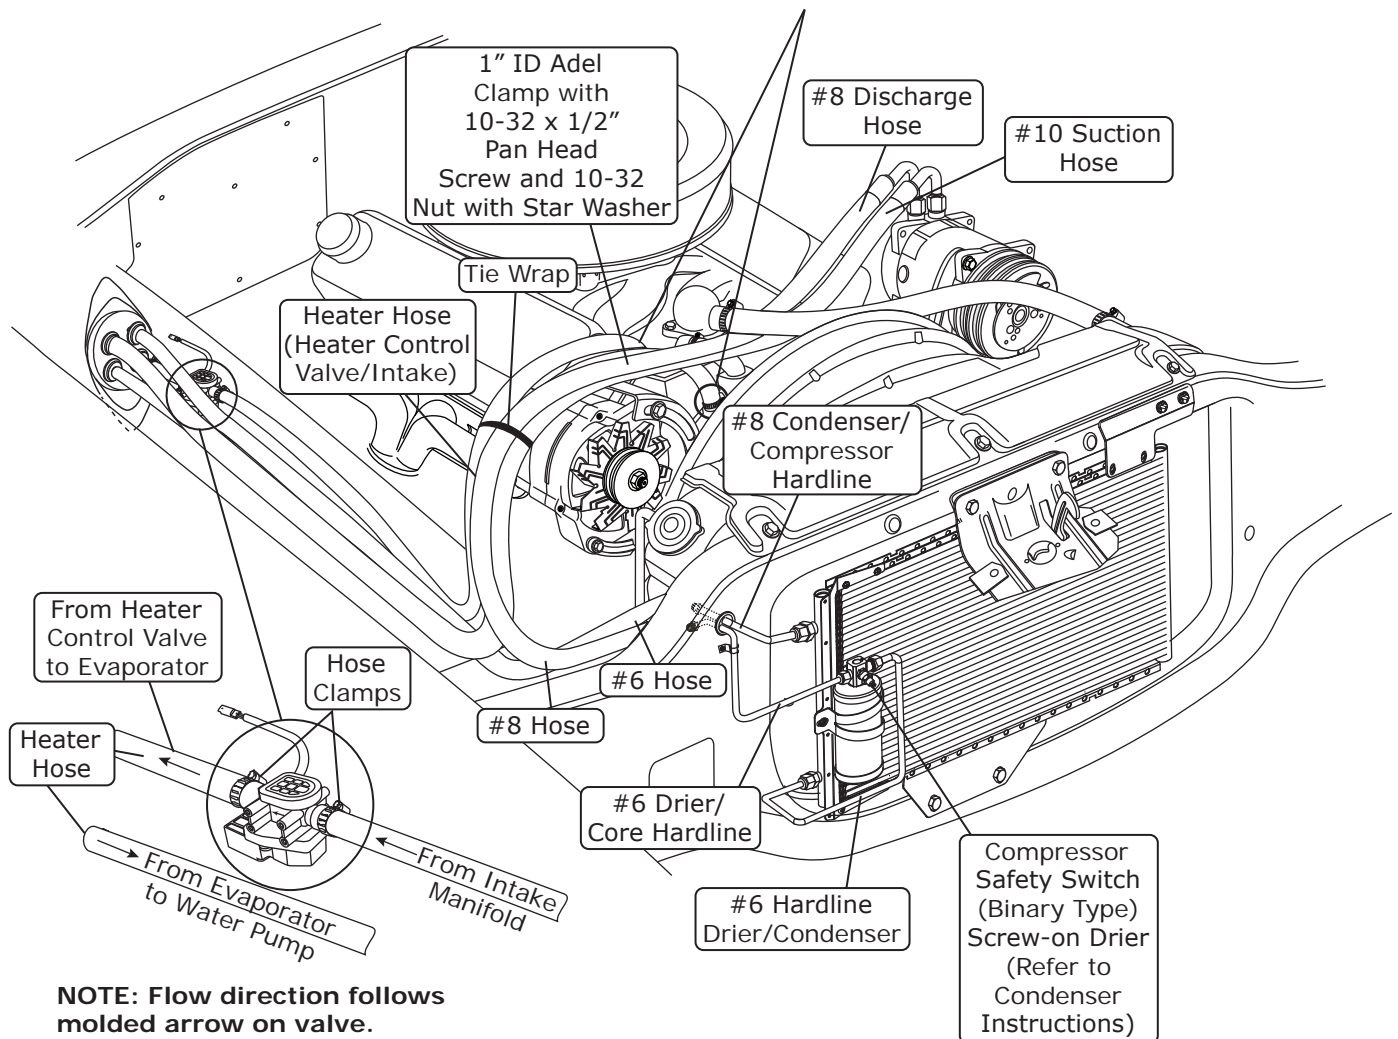

Figure 1
1. Route a piece of heater hose from the water pump to the top heater fitting of the heater core as shown in Photo 2, Page 15, and Figure 1, below. Secure using hose clamps.
2. Route a piece of heater hose from the intake to the bottom heater fitting of the heater core as shown in Photo 2, Page 15, and Figure 1, below. **NOTE: Install heater control valve in line with intake manifold (pressure side) heater hose. Secure using hose clamps as shown in Figure 1, below. Also note proper flow direction.**